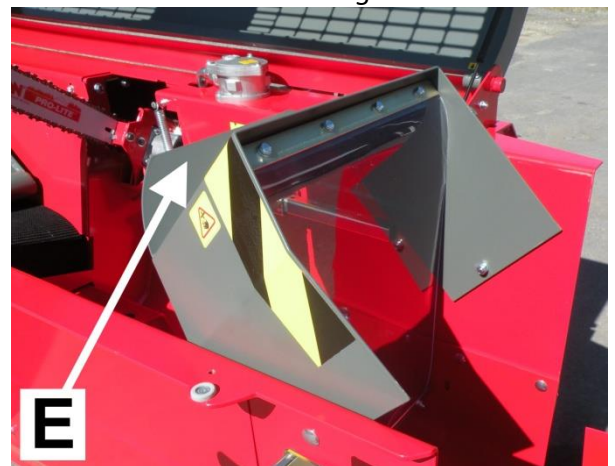

Figure 9.
5. Turn the splitting groove guard E into transport position, as shown in Figure 9.